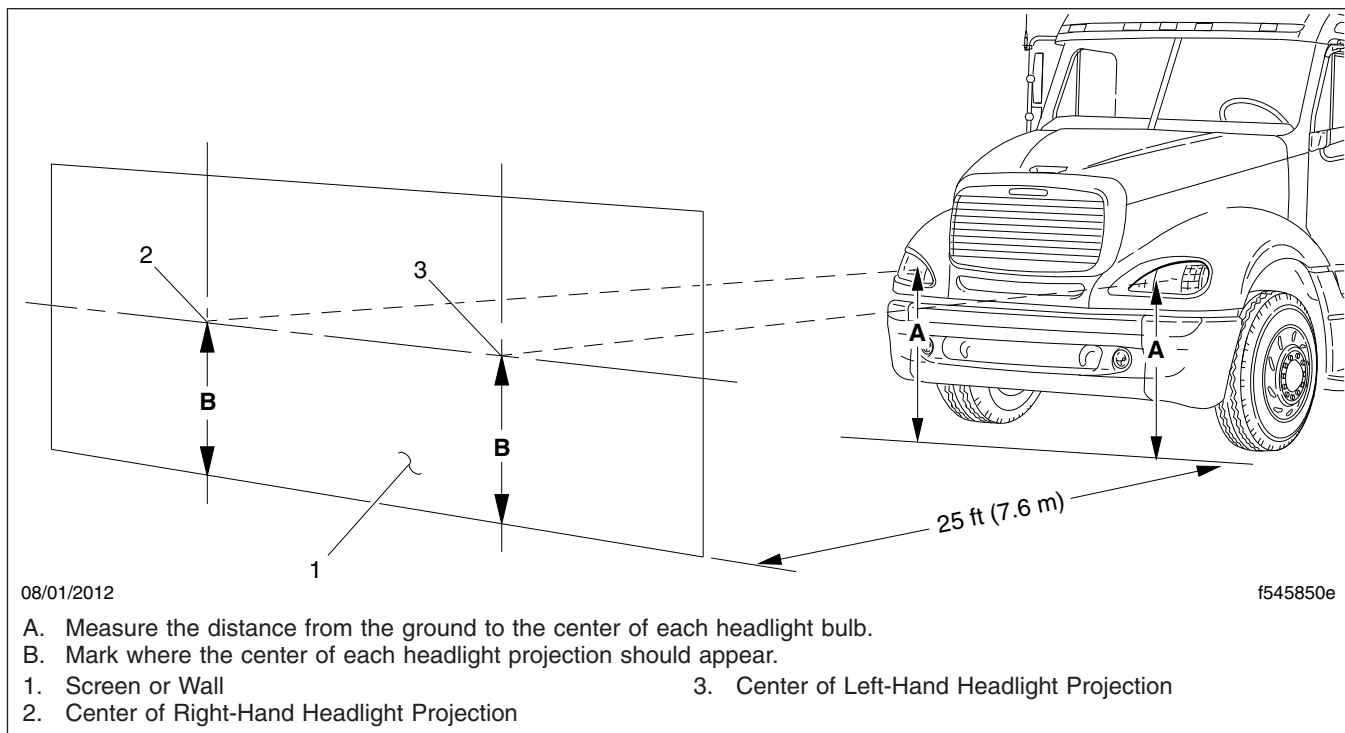

Fig. 14.1, Headlight Aiming Screen/Wall
2. Each headlight has a small, clear height adjusting dot. Measure the distance from the ground to the center of each height adjusting dot. (**Fig. 14.1**, Item A). Note those distances.
3. Mark the vertical distances found in step 2 on the screen or wall, directly in front of the headlights. These marks represent the desired locations of each headlight bulb center in the following steps. See **Fig. 14.1**, Items 2 and 3.